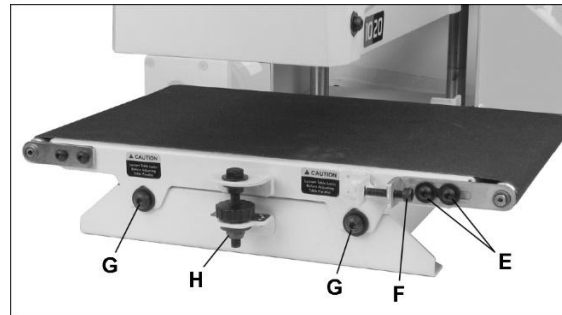

Figure 10-3: conveyor belt replacement
3. Loosen two screws (E, Figure 10-3) and turn take-up screws (F, Figure 10-3) on both sides of conveyor to relieve belt tension, and slide the driven roller fully inward.
4. Loosen two table locking screws (G, Figure 10-3).
5. Remove lock nut (G, Figure 10-3).